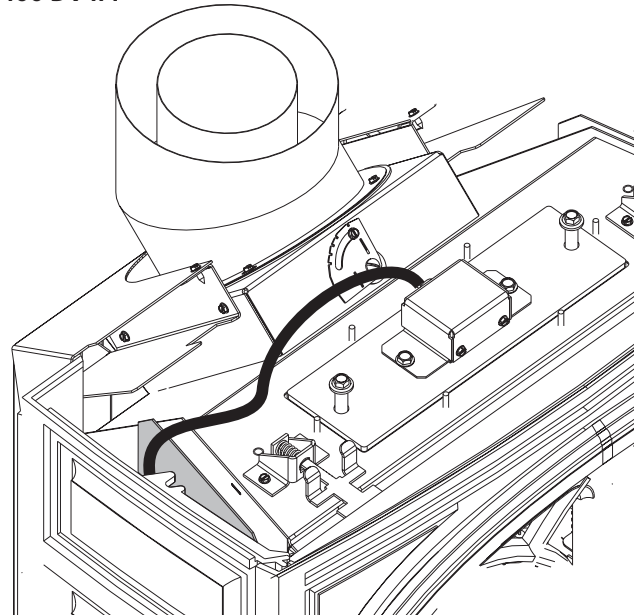

Figure 3. Lamp wire harness routing.
3. Position the Gasket, Lens, and Lamp Box on the top of the Relief Panel using the two bolts (A) previously removed. Use the spare gasket provided if the original is damaged.
4. Inside the firebox, attach the Light Deflector plate to the bolts on the underside of the Relief Panel using the nuts (B) previously removed.
5. Route the controls wire harness in between the inner and outer shrouds, and then through the opening in the base plate. Connect the harness to the (L) terminal on the rear of IFC board. See figs. 3 and 4.